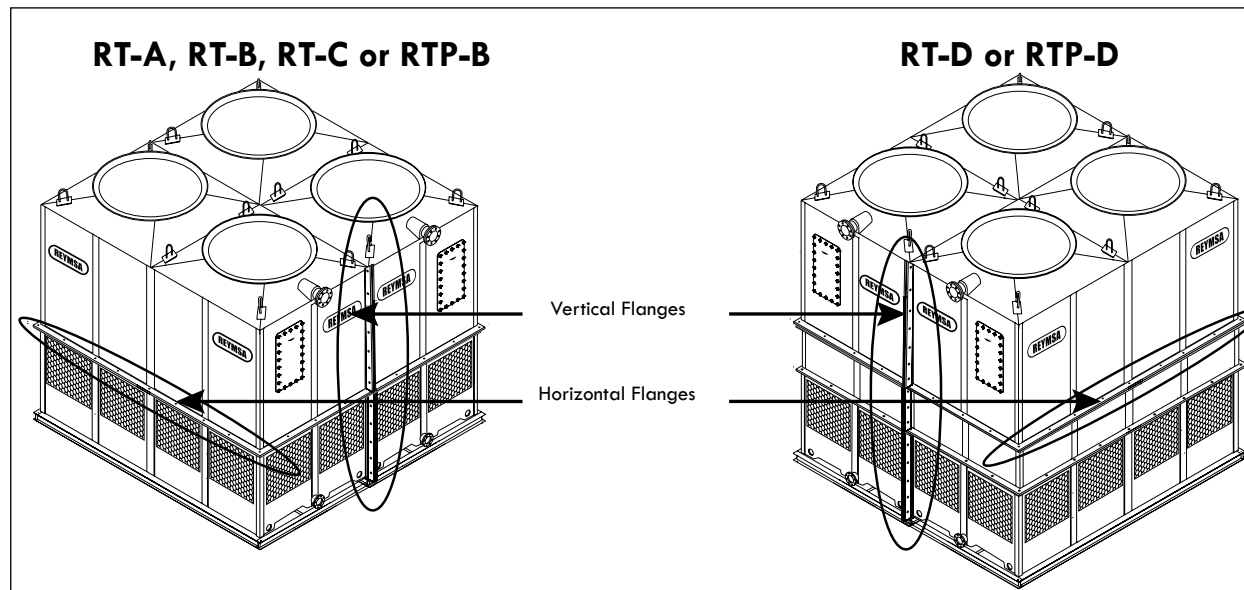

Figure A-31: Body section 2 (Upper Body section 2 for RT-D or RTP-D) on a Four Fan Tower
- O.** Now with the two upper sections together, proceed to bolt down and secure horizontal flanges with the stainless steel nut and bolts sets supplied by REYMSA. See Figure A-31.